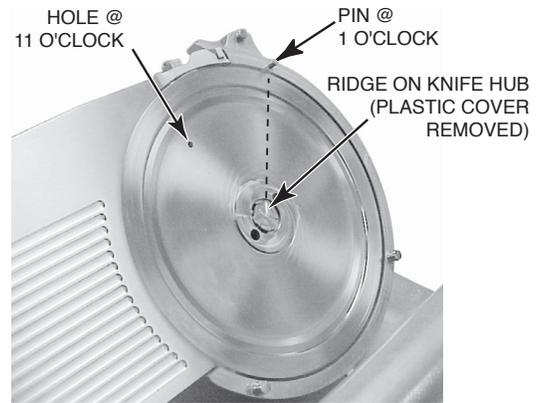

Fig. 20
- Rotate the KNIFE using your hand on the back of the knife, the arrow on the KNIFE must align with the PIN on the RING GUARD at the 1 o'clock position (Fig. 20).